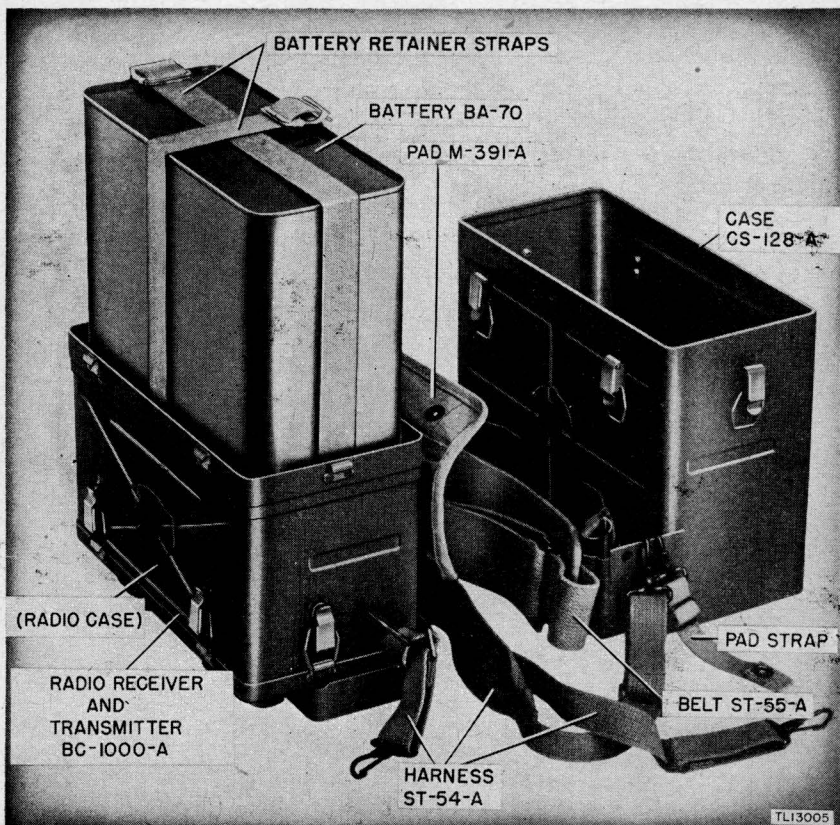

Figure 10: Radio Receiver and Transmitter BC-1000-A, Battery BA-70 in place—disassembled view.
d. Lift the battery (with power cable attached) and gently lay it upside down in the middle of the inverted chassis case. The battery cable must lie between the battery and the chassis case in one large loop. The battery must be centered and aligned with the chassis case. (See fig. 10.)
e. Securely fasten the battery to the chassis case with the battery retainer straps as shown in figure 10.